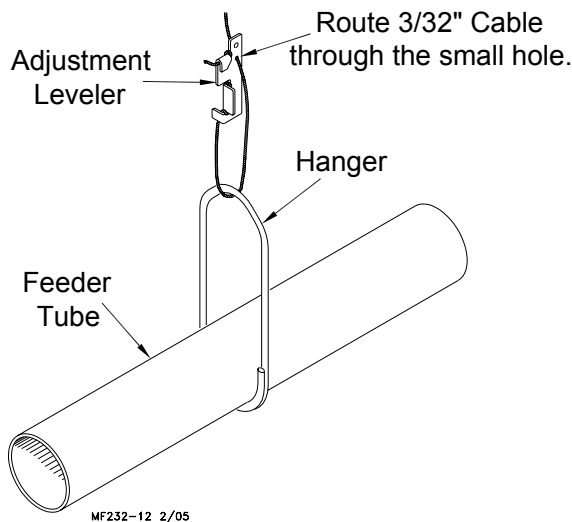

Figure 28. Adjustment Leveler and Hanger Installation.
6. Install the hangers on the tubes on 8' (2.4 m) spacings determined by the suspension drop lines. **Figure 28** shows the proper installation of the hanger assembly. Make sure the outlet drop hole is down when the hangers are installed, otherwise feed will not be allowed to drop into the feeder pan.
7. Install the adjustment leveler within 6" (152 mm) of feeder line hanger. **Figure 28** shows the proper cable routing around the adjustment leveler.